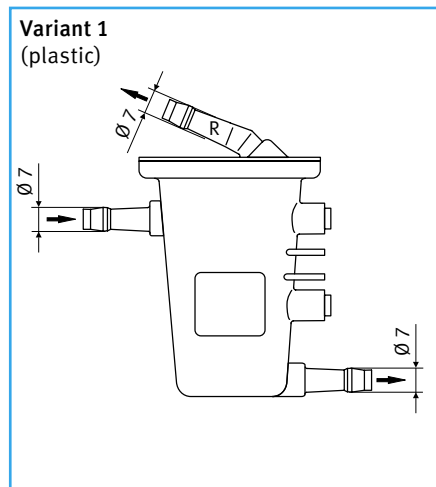

Figure 18 Fuel vapor separator
There are four important variants for fuel vapor separators. (See → Figures 18 to 21.)
- **Variant 1** (Figure 18) with variable return via a ball valve. The valve is open when *vapor* is present. The vapor can flow to the tank, and the system is quickly filled with fuel. With *fluid* present, the valve reduces the return quantity. The fuel supply is ensured even under full load.